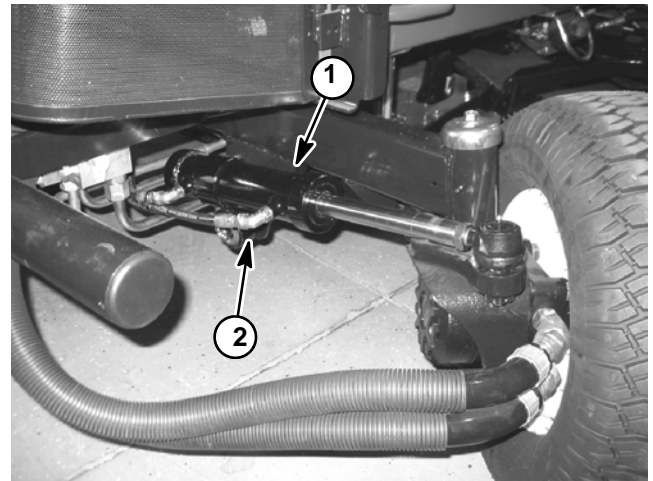

Figure 62
5. Thoroughly clean the area around the hydraulic hose at the rod end of the steering cylinder (Fig. 62).